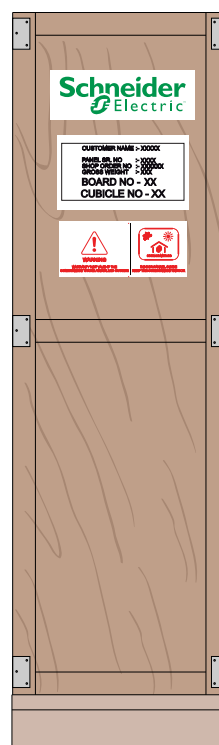

Figure 5
- For water or air transport, the units are packed in sealed aluminium foil with desiccant and in a closed wooden case with a tightly closed wooden base, as shown in the Figure 5.